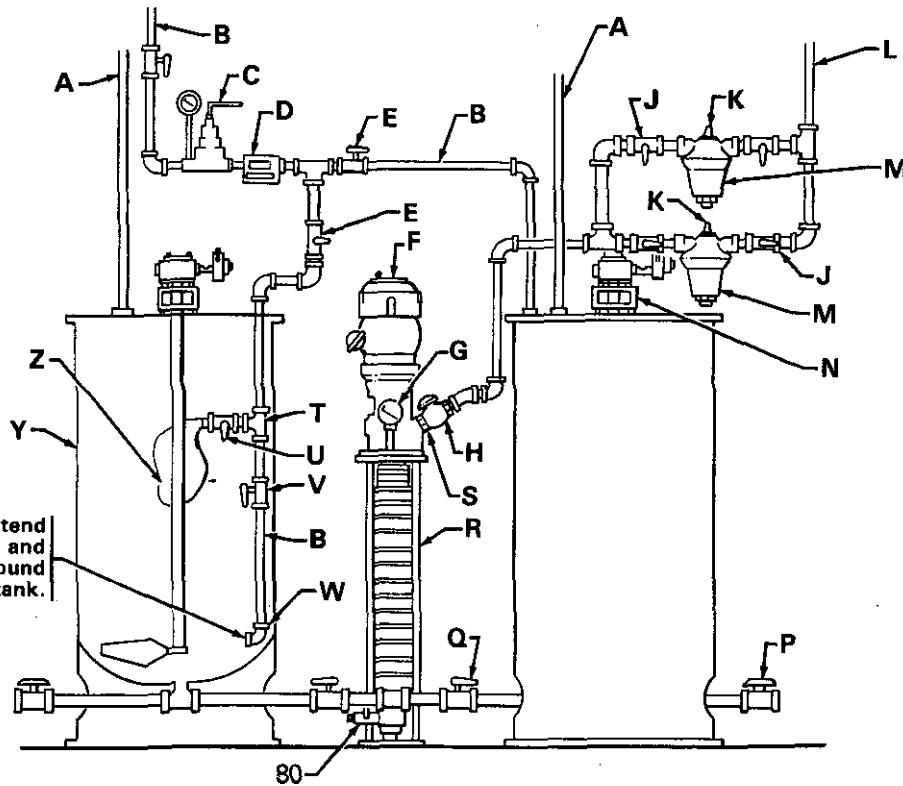

Fig 1
Cleaning, Flushing and Priming **System** (See Fig 1 and 2)
Attach a cheese cloth bag (Z) of six layers minimum thickness to the return line in the tank as shown in Fig 1 on page 2. Open the valve (U) and close the valve (V).